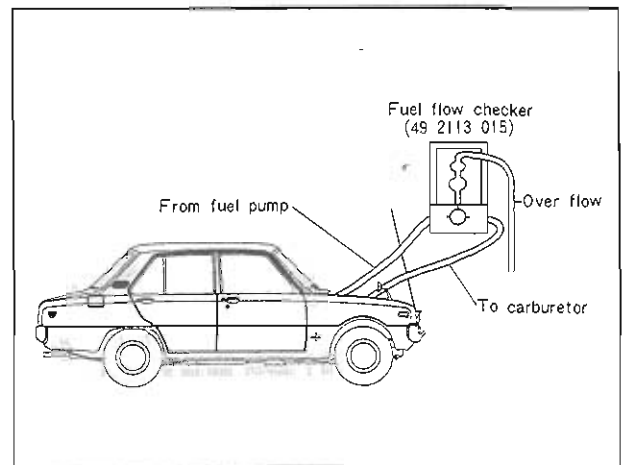

Fig. 4-3 Fuel flow check
2. Set the fuel flow checker (49 2113 015) as shown in Fig. 4-3.